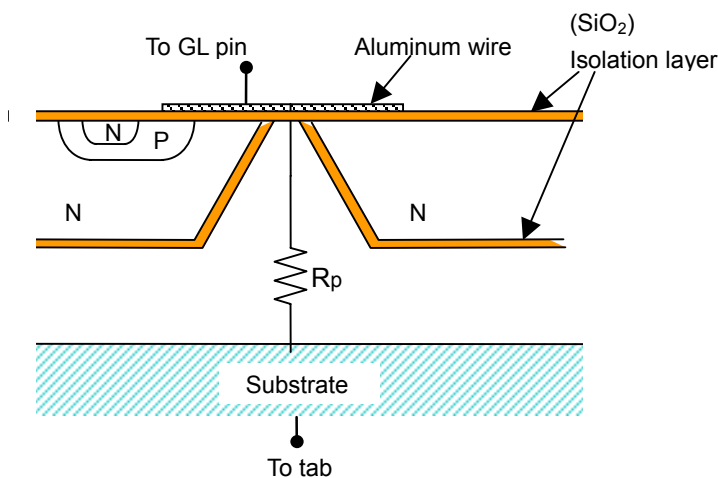

Fig. 6-1. Cross section of Hitachi HVIC
(2) Connection of tabs (radiator panels of the ICs)
- Fig. 6-1 is a cross section of the IC. The tab and the GL pin of the IC are connected with high impedance (R_p = hundreds of $K\Omega$ to several $M\Omega$).